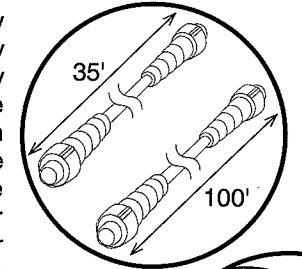
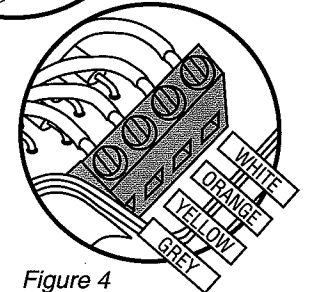

Figure 3
Figure 4
Once the sensor cables have been installed within the pump as discussed on page 1, they must be connected to the control module via the sensor receptacle which is factory installed. (See Fig. 2.) The sensor cables are connected to the sensor receptacle by simply inserting the in-line plug into the receptacle, aligning the key notch, and turning the connector clockwise one-half turn until a click is heard. If the sensor cables extending from the pump are not long enough to reach the control module, the user can lengthen the wiring with 35' (10,67m) and 100' (30,48m) extension cords available from Wilden. These extension cords utilize the same connectors as the sensor cable and receptacle for compatibility and ease of use. (See Fig. 3.) In lieu of the Wilden extension cords, the user may supply his own wire (AWG 24) up to 2500 feet (762m). It is critical that the wires are kept separate and Wilden sensor cable is installed in the pump. It is important that all wiring connections are waterproof and secure. It may be necessary to run all wiring through conduit. The cable grip located on the bottom of the control module should be tightened so that the penetration is resistant to liquid intrusion. It is possible that the 6" sensor receptacle (P/N 65-8050-99) may need to be replaced. It is vital that the sensor wire pairs are kept separate and installed as per Figure 4.
**NOTE: USE ONLY A 9 VOLT ALKALINE BATTERY.** One can verify that the battery is dead by connecting top two terminals on the terminal block (see Fig. 3) via a screwdriver. If the alarm does not sound, the LED does not function, and the relay does not close, the battery is dead.